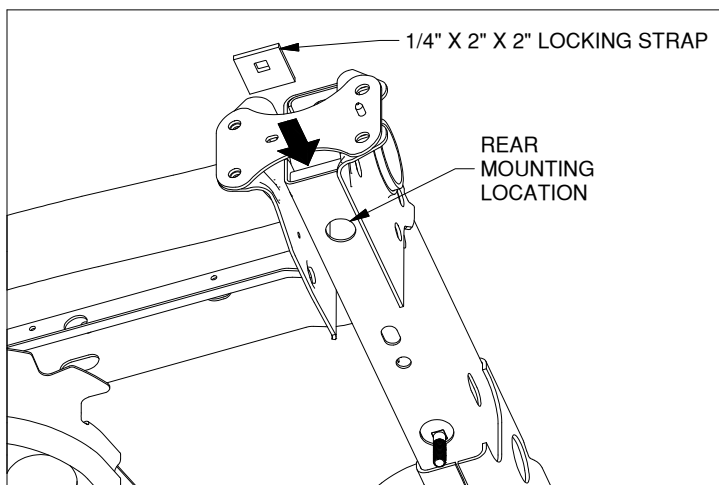
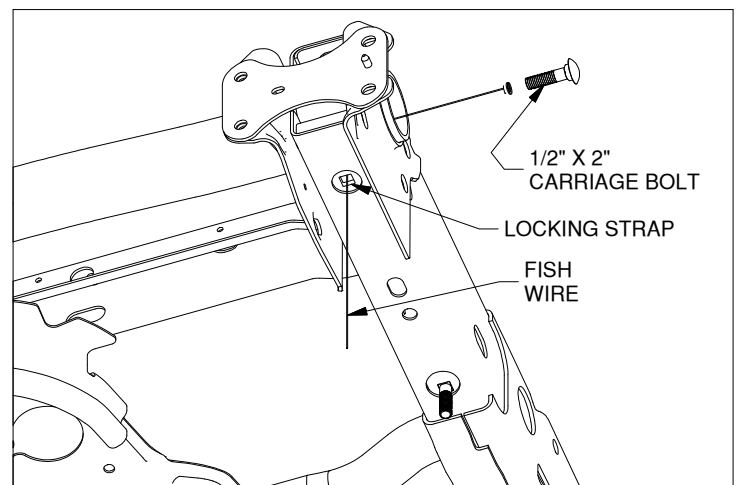

Figure B4: View of passenger side of frame.
Figure B5: View of passenger side of frame.
3. **Install the rear mounting location.** Locate the 1/4" X 2" X 2" locking straps and two 1/2" X 2" Carriage Bolts. Place the locking strap inside of the frame so that its square hole can be seen through the rear frame mounting locations. See Figure B4. Pass a fish wire, coil end first, up through the now visible hole in the locking strap, then pass the coil up and out of the frame, see figure B5. Thread a Carriage Bolt onto the coil end of the fish wire. Pull the fish wire and bolt back through the frame until the carriage bolt has passed through the locking strap. Make sure that the square shoulder of the carriage bolt is fully engaged in the square hole of the locking strap. Uncoil the fish wire and repeat this process for the other side.